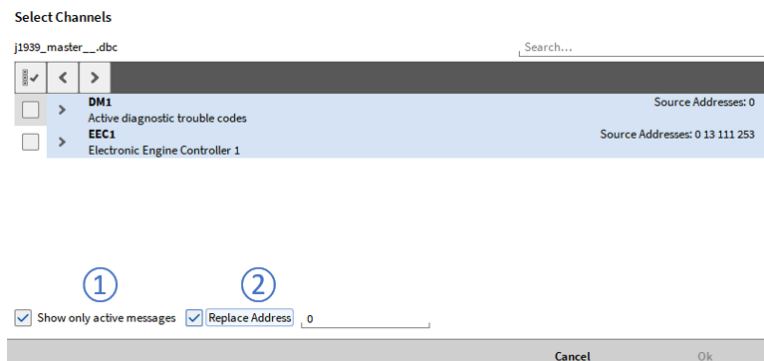

Fig. 7.210: Channel picker for SAE J1939 messages and signals
If a dbc- or arxml file is loaded that contains J1939 messages, the source Address will be displayed when Show only active messages is activated (see ① in Fig. 7.210). By Selecting Replace Address it is possible to replace the current source address of the dedicated message by a user defined one (see ② in Fig. 7.210).